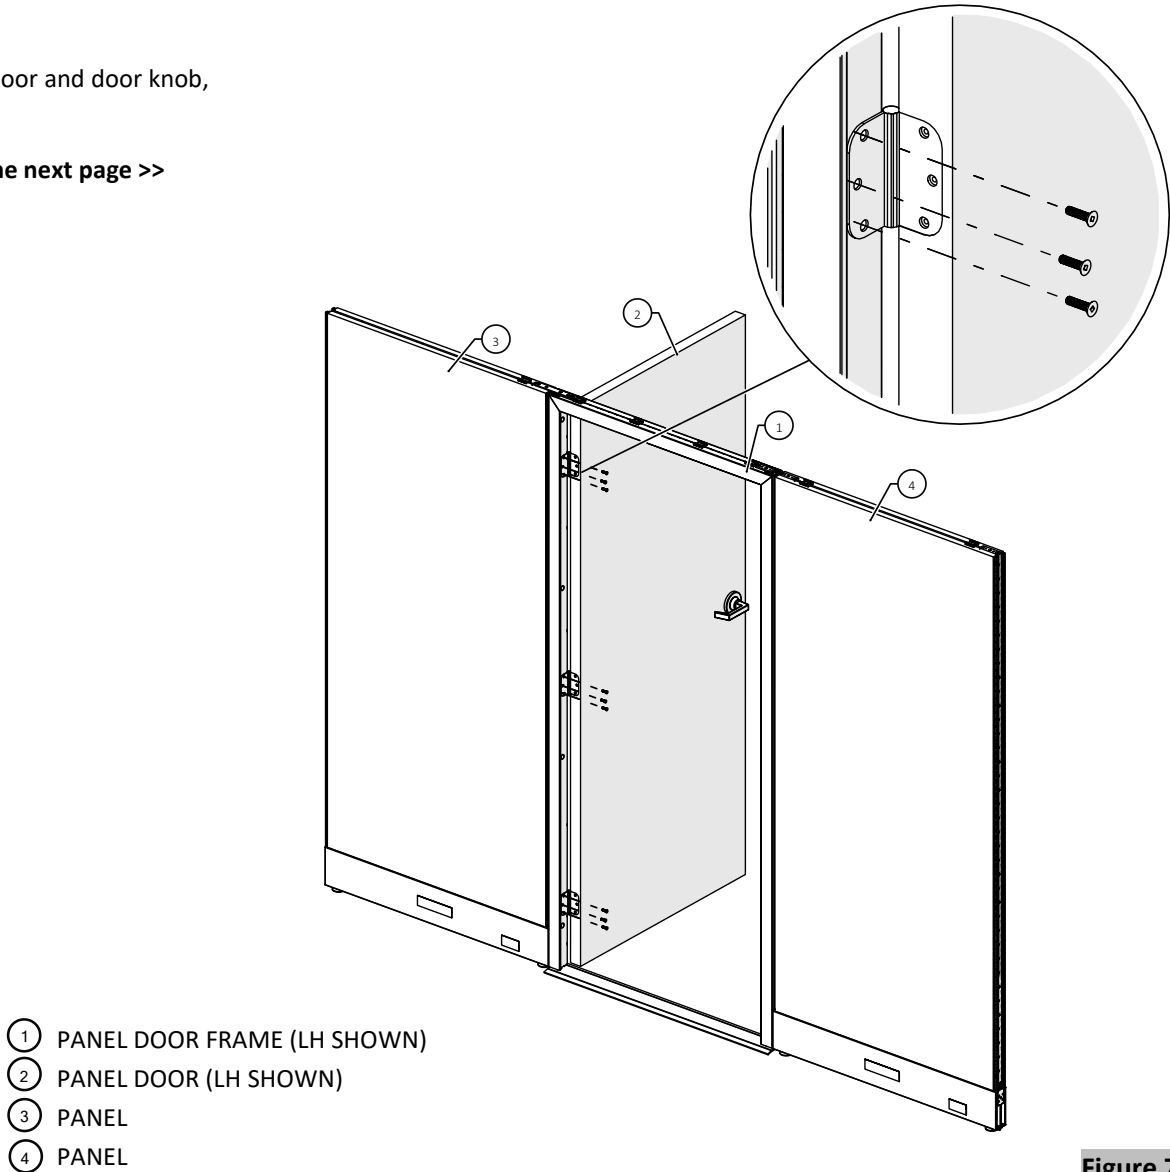

Figure 7
- 7. Install the door and door knob, (Figure 7).